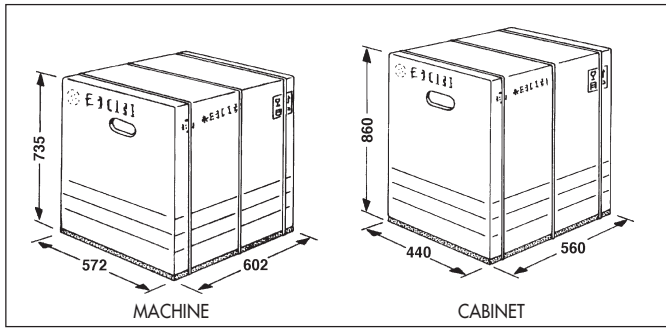

Fig. 4
- The machine is packed into a sturdy cardboard box with a reinforced platform, as shown in figure 4. The boxed machine can be stored in cool, dry, dust-free locations.